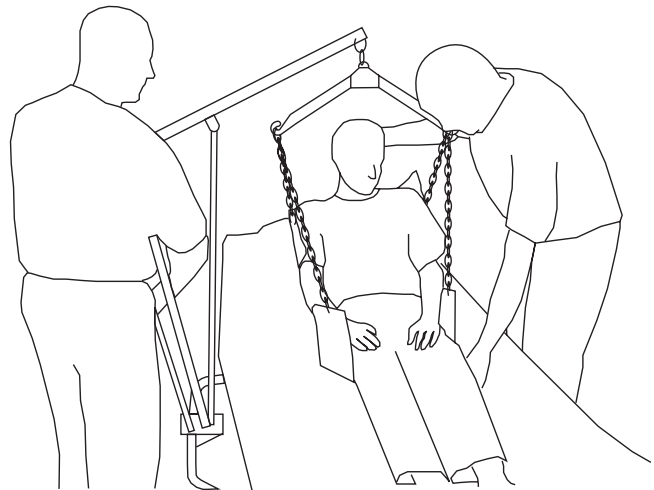

FIGURE 2 - LIFTING THE PATIENT OFF THE BED
6. When the patient is lifted from the bed (with the patient's head supported), he/she will be raised to a sitting position (**FIGURE 2**).